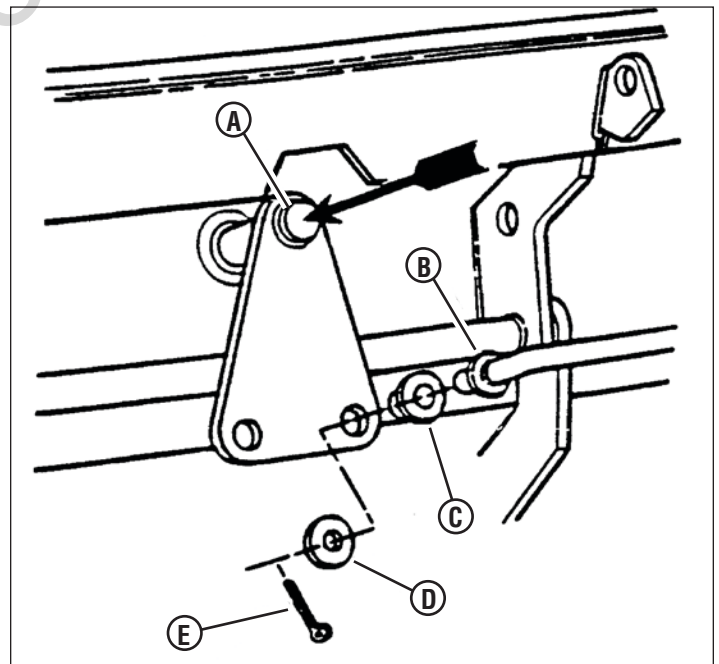
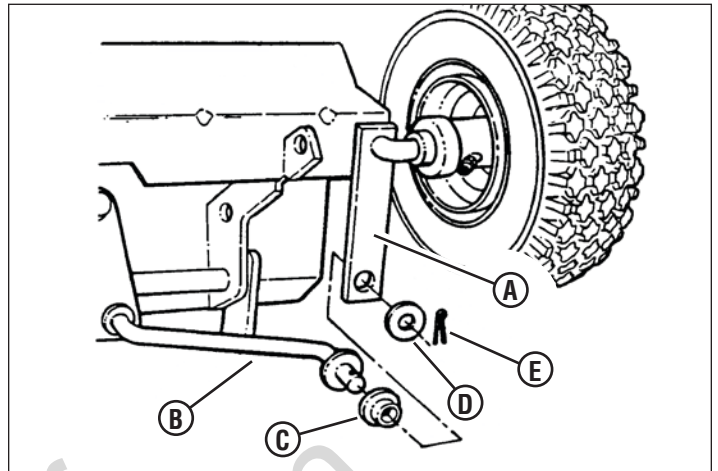

Figure 1
Figure 4
- A. Push the steering shaft (A, Figure 1) into place.
- Install the bushings (C, Figures 1 & 4) onto the tie rods (B).
- Install the tie rods between the steering shaft (A, Figure 1) and steering arms (A, Figure 4). Secure with two 3/8" flat washers (D, Figures 1 & 4) and 5/32" x 1" cotter pins (E).